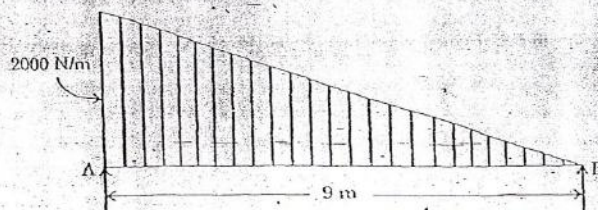

Fig. 1
7. (a) Draw S.F. and B.M. diagrams for the beam shown in Fig. 1. 10
- (b) Draw S.F. and B.M. diagrams for beam loaded with varying load as shown in Fig. 1. 10